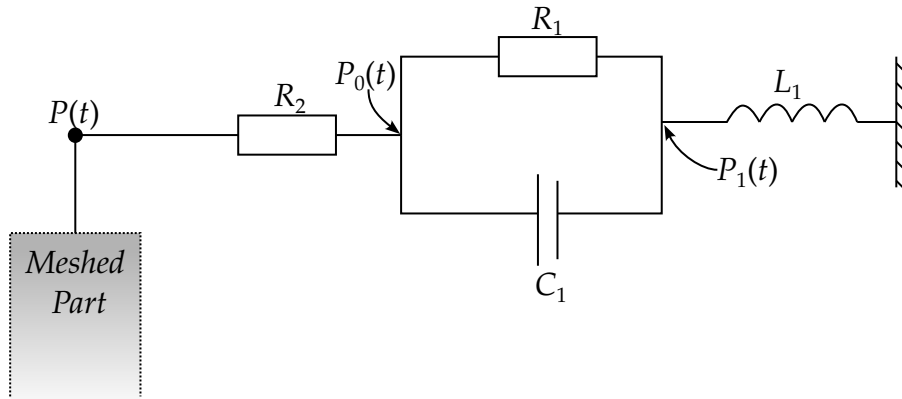

Figure 7-1. WTYPE = 1 and 2 circuit
1. **WTYPE = 1 and 2.** See Figure 7-1 for a diagram of the circuit. The equation solved at the boundary is: